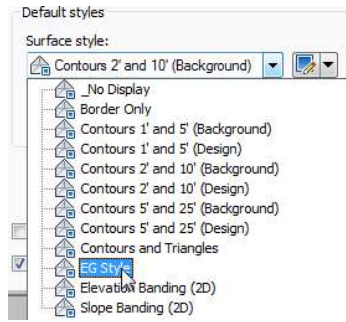
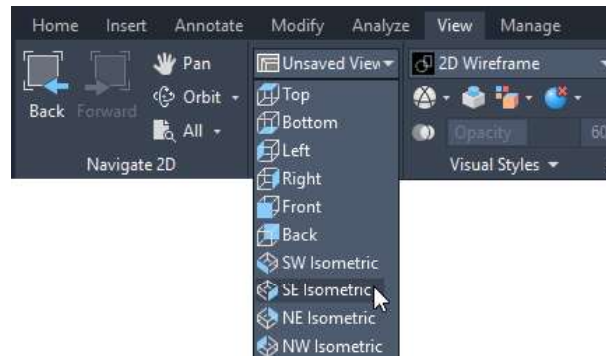

Figure 3-62 Selecting the **EG Style** option from the **Surface style** drop-down list
Figure 3-65 The SE Isometric button chosen from the View tab
4. In the **Default styles** area of the tab, select **EG Style** from the **Surface style** drop-down list, as shown in Figure 3-62.
7. Choose the **SE Isometric** button from the **Named Views** panel of the **View** tab, as shown in Figure 3-62 to view the surface in 3D view; the surface is displayed with triangles at an exaggerated elevation, and the surface border and points are displayed at the original elevation, as shown in Figure 3-65.